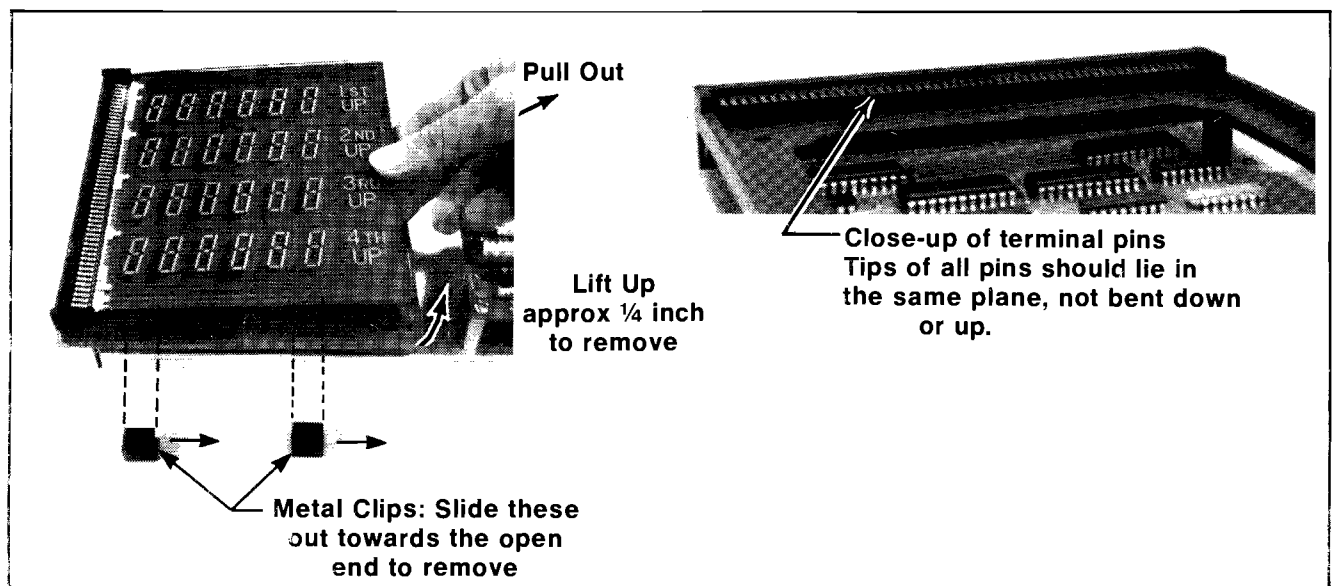

Figure 19 Removal of Score Panel
- 2) Remove the metal clips holding the score panel onto the bracket arms of J21 (refer to Figure 19).
- 4) Examine the positions of the terminal pins on J21. Tips of the pins should be aligned in the same plane, as shown in Figure 19's detail view. If not bent out of alignment, all pins can then make contact with the score panel's terminal strips when the panel is plugged in.